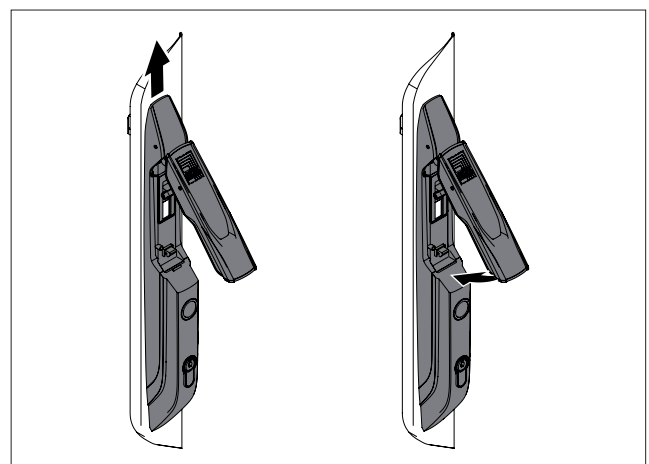

Fig. 21: Locking the handle (right-hand hinge / left-hand hinge accordingly)
- Push the handle upwards and lock it (fig. 21).